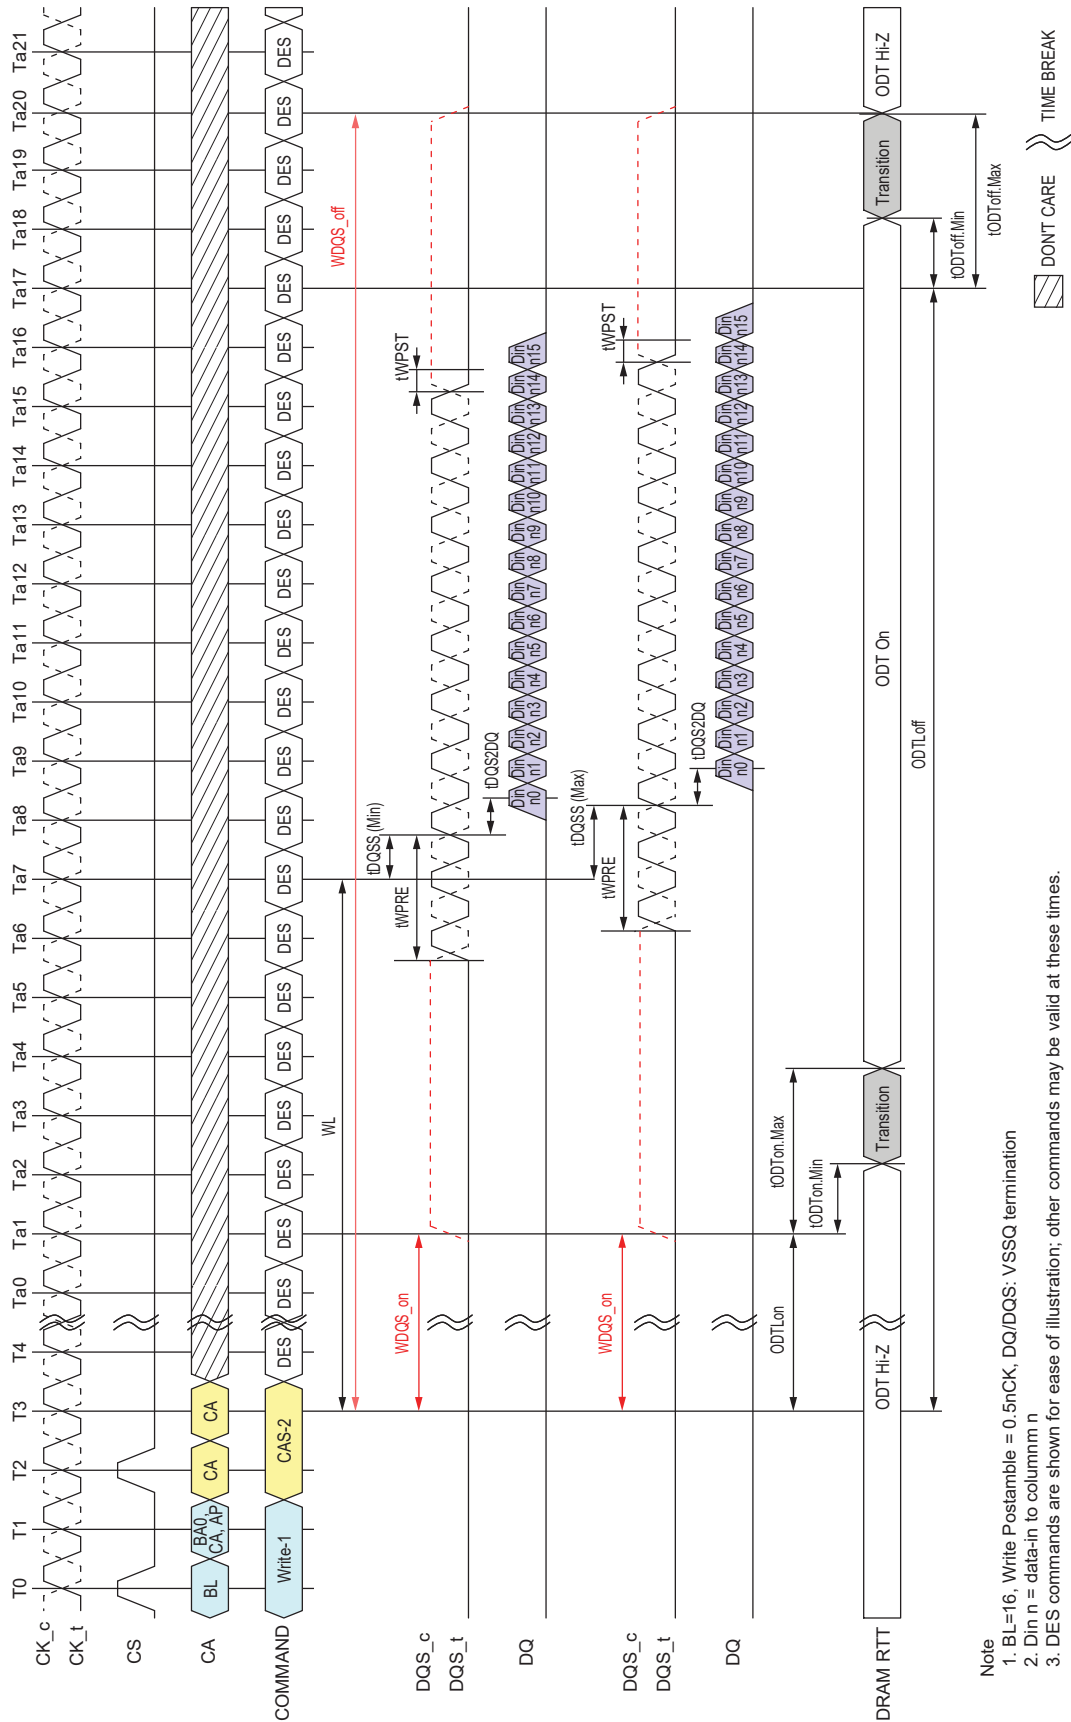

Figure 4.116 — Asynchronous ODTon/ODTOff Timing
1. ODTLon is referenced from CAS-2 command. See Figure 4.116.